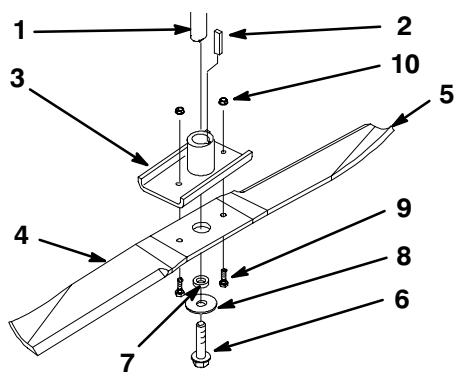

Figure 46
Hold the blade end using a rag or thickly-padded glove. Remove the retainer bolt with its washer and spacer, and the blade bolts and locknuts from the blade retainer (Fig. 46).
1. Position the blade onto the blade retainer and secure with shear bolts and locknuts (Fig. 46).
3. Install the key in the retainer. Install the blade, spacer, washer, and retainer bolt to spindle (Fig. 46).